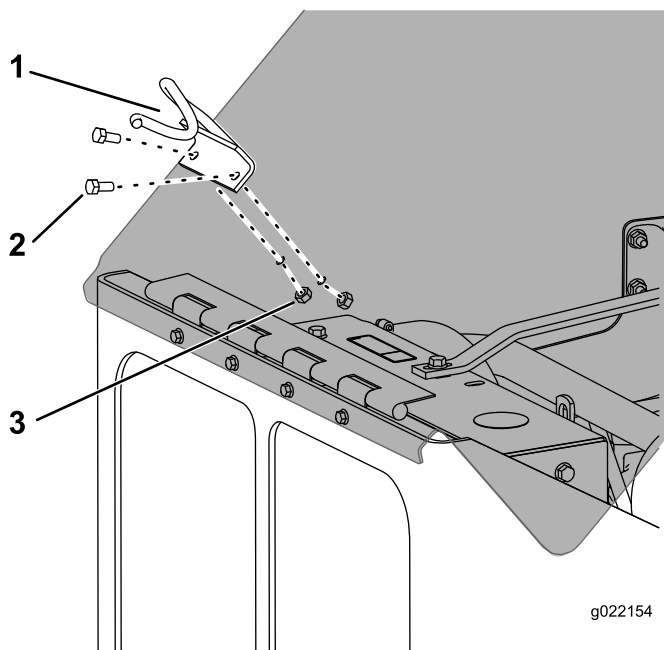

Figure 3
2. Mount the hood-cable-guide bracket on the outside of the hood and place the 2 bolts (5/16 x 3/4 inch) through the holes on the bracket and the machine, and secure the bracket with the 2 nuts (5/16 inch) on the inside of the hood (Figure 3).